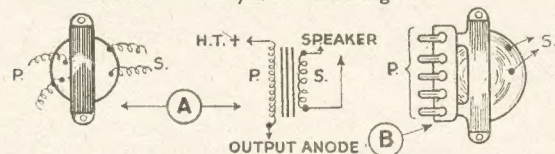

Fig. 3—Loudspeaker transformers
You can make the periscope any height—as high as a house if you like—but the taller they are (the bulkier they are to carry, and the more tiring to hold. In Fig. 2 the artist has used a conventional 'break'. This does not mean that the material is to be cut in two parts, horizontally, but merely that, to save space, the drawing has been shortened. The case, as made up, will appear as in Fig. 3. 2ft. high is a suitable size, and the mirrors can be $3\frac{1}{2}$ ins. by $2\frac{1}{2}$ ins. Any glazier will cut these for you quite cheaply.
Moving coil speakers cannot have many turns on the speech coil. Their impedance is consequently low and an output or speaker transformer must be used to couple them to the output valve in the receiver, as shown at (A) in Fig. 3.
If no alternatives are available, as at (A) in Fig. 3, the transformer is intended for one particular class of output valve. It will work with others, but not quite as well as would a transformer with the correct primary impedance. A tapped transformer is therefore usually much more useful for the experimenter.